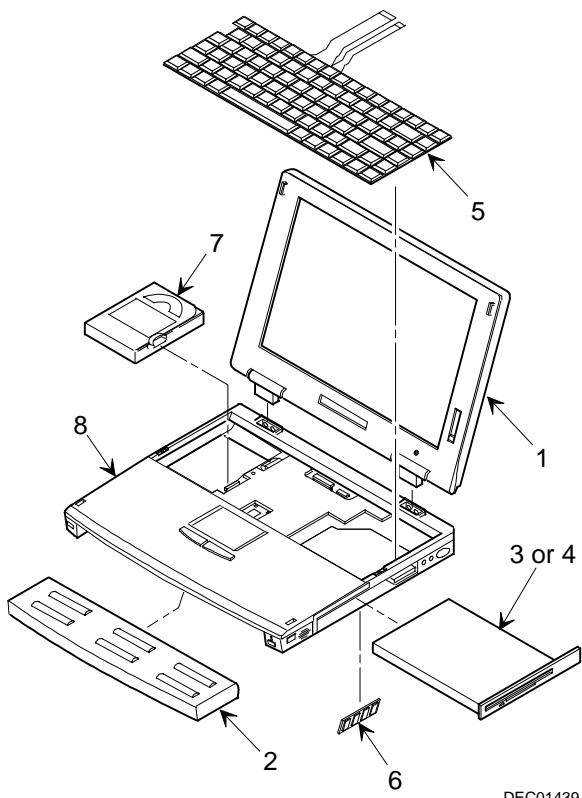

Figure 5-1. DIGITAL HiNote Ultra 2000 Series
* Items marked with an asterisk (*) are not illustrated in Figure 5-1.